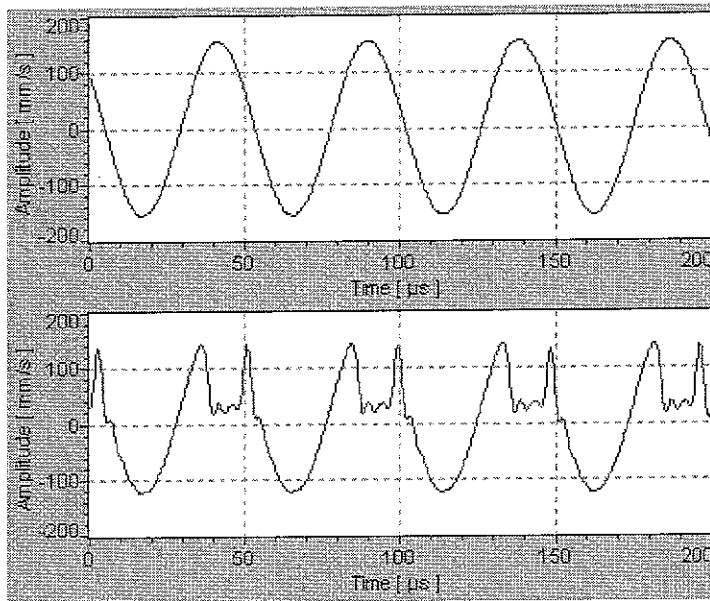

Figure 4.8: True velocity signal (top) and signal when the tracking filter loses lock (bottom)
- For medium velocities and frequencies, the acceleration limits of the tracking filter have to be taken into consideration. The optimal setting must be found with the diagram. If the velocity or acceleration limits are exceeded, the tracking filter loses lock (refer to section C.2). This will cause serious signal distortions, an example of which can be seen in figure 4.8.
The upper trace in figure 4.8 shows the sinusoidal velocity signal with the tracking filter in position OFF. The lower trace shows the velocity signal with the tracking filter in position SLOW. The tracking filter is on the limit of the range where it loses lock, the signal is partly distorted.